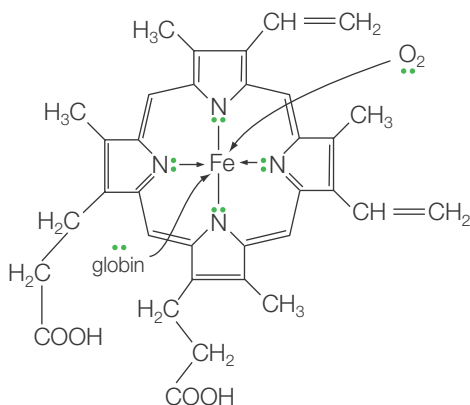

Figure 23.86 The structure of the heme group in hemoglobin
Hemoglobin is a protein found in mammals that transports molecular oxygen in the red blood cells. Oxygen binds cooperatively to hemoglobin, resulting in a sigmoidal (S-shaped) oxygen dissociation curve. It is a tetrameric protein – four protein molecules associated together. Each of the four globin proteins contains a heme group with an iron(II) ion at the centre (Figure 23.86).